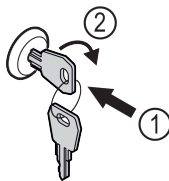

Fig. 173
- ▶ Insert the key. Fig. 173 (1)
- ▶ Turn the key clockwise by 90°. Fig. 173 (2)